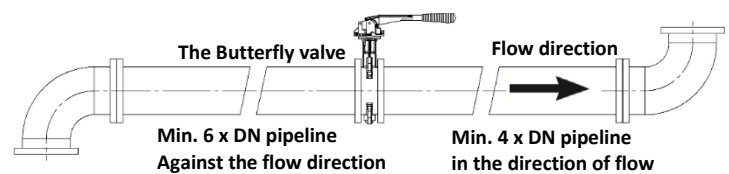

Fig. 1: Valve in the pipeline
- Recommendation: The valves must be installed in piping with a stabilized flow. The general rules for stabilizing flow behind a pipe element causing turbulence (e.g., pump, other valves, etc.) must be observed. Generally, calculate a minimum of 6xDN upstream and a minimum of 4xDN downstream (Fig. 1), but this depends on the specific conditions specified by the designer.
- Operation of the actuator mounted on the valve is permitted only when the butterfly valve is connected to the pipeline on both sides. Operating the valve without meeting this condition poses a risk of injury, for which the user is solely responsible. An exception applies to valves with a normally open (NO) actuator, where the disc is